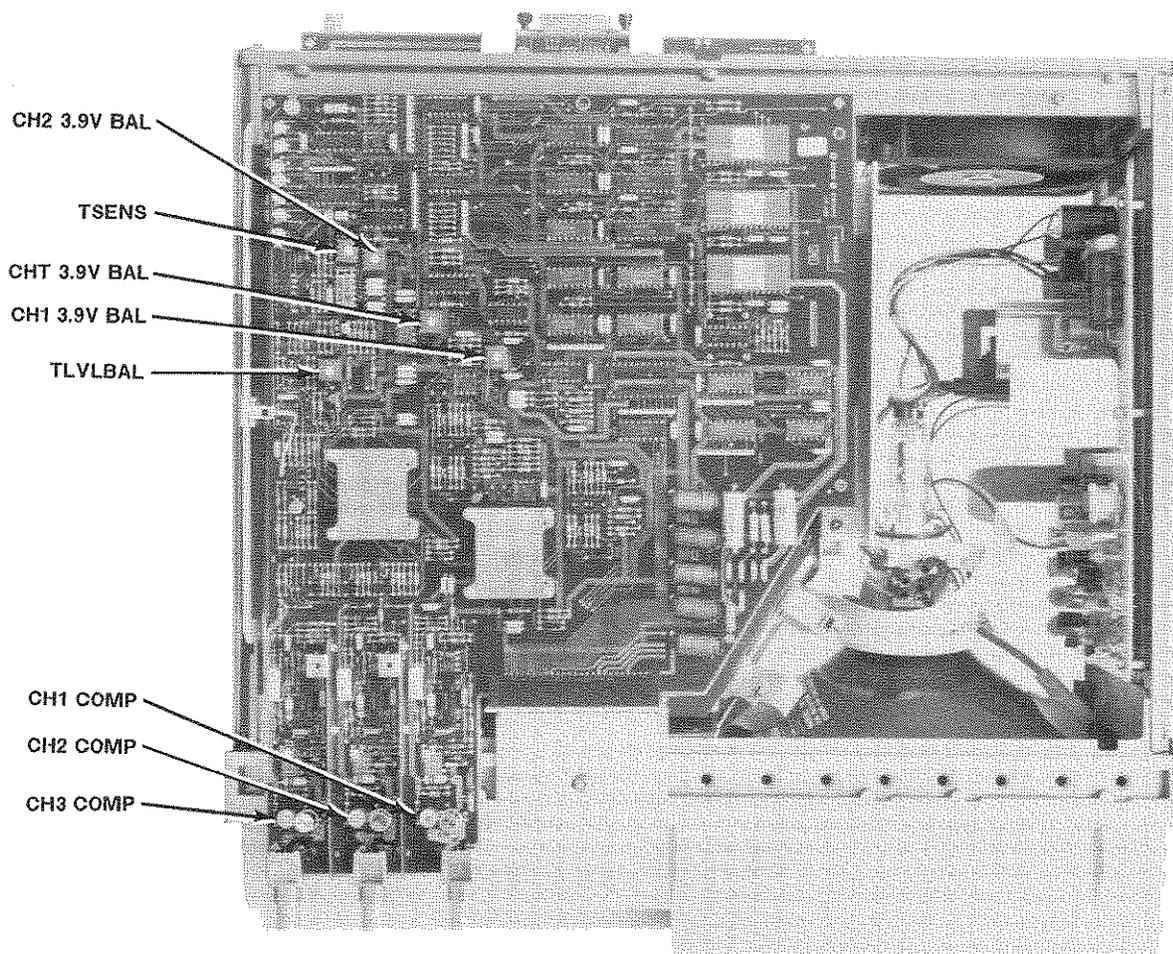

Figure 10-7. Analog Board Adjustment Locations.
5. Display Chan 1 and note position trace on screen. Now set CHAN Range to 16 V and note trace position. Adjust CH1-3.9V BAL (figure 10-7) while switching between the 16-V range and the 40-V range. The voltage shift on the 40-V range should be equal and opposite to the voltage shift on the 16-V range when adjusted correctly. Do not offset more than  $\pm 4$  V.
8. Select SYSTEM Calibration menu. Execute ALL GAIN AND OFFSET (0). Wait until the gain and offset auto calibration has finished.
6. Connect the function generator output to 54200A/D INPUT 1 BNC and adjust the CH1 COMP adjustment for maximum square wave flatness using an insulated adjustment tool (figure 10-7).
4. The triggered waveform should appear similar to figure 10-10. If the waveform is not triggered, then turn TSEN (figure 10-7) completely clockwise. Now adjust TLVLBAL until a triggered waveform is displayed.